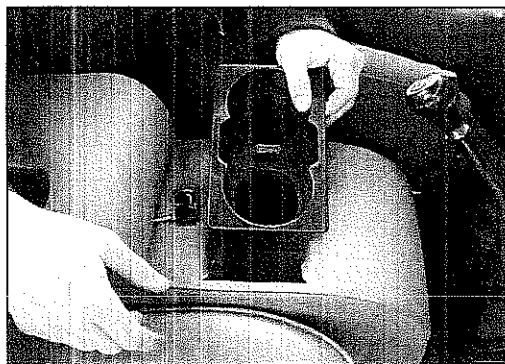

Figure 3
4. Secure the Console to the floor of the vehicle using the (2) 14 X 1 3/4" Sheet Metal Screws provided.
5. Remove the cup holder to expose the inner section (Figure 3).